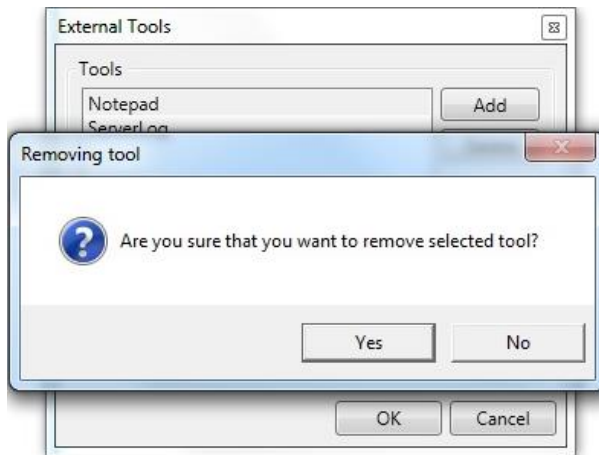

Figure 5-24: Deleting an External Tool
- Click **Yes** to the prompt as shown in Figure 5-24.